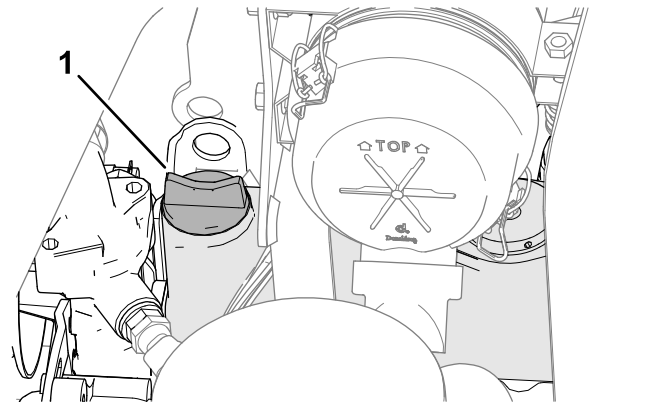

Figure 64
5. If the oil level is low, remove the oil-fill cap (Figure 64) and gradually add small quantities of oil, checking the level frequently, until the level reaches the Full mark on the dipstick.